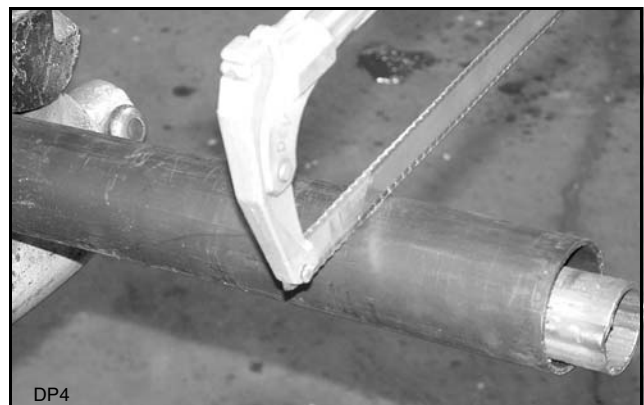

Figure 29. Cut Shield
- Cut the shield to the overall dimension. See Figure 29.